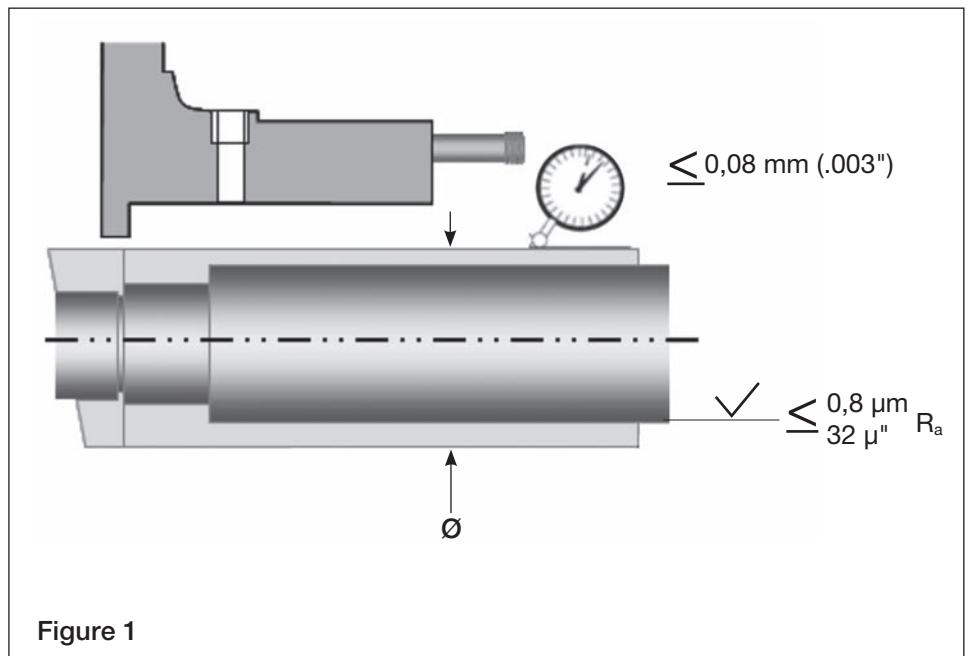

Figure 1
3. Inspect pump sleeve to ensure that it is in good condition (**Figure 1**). Sleeve condition will have a direct impact on the service life of packing in pumps. If the sleeve requires replacement, replace with an OEM sleeve or equivalent.
1 Shaft condition (radial run-out) per Figure 1 is a requirement for this style packing.